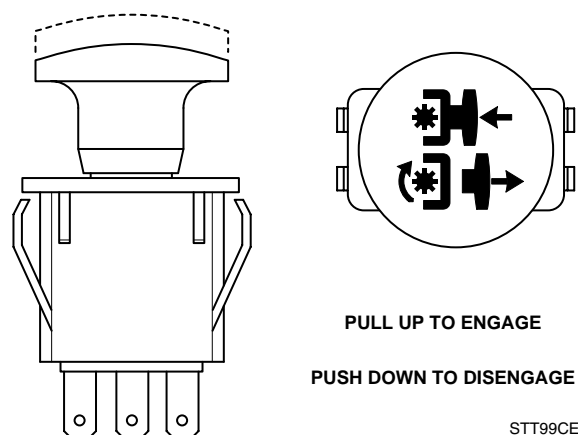

Figure 4-3 Cutter Deck Engage Switch
2. Engage the deck drive by pulling out on the yellow switch, located on the instrument panel, (Figure 4-3) to the engage position.